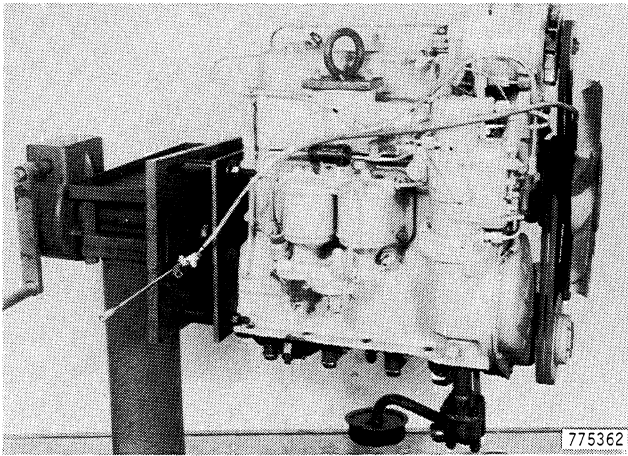

Figure 5
1. Put the engine in a suitable engine stand, Figure 5.